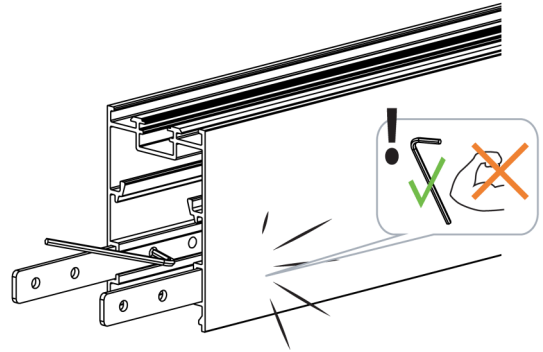

FIG. 12
- NOTE: Do not over fasten— this may cause visible damage on the outside of the fitting (Fig. 12).